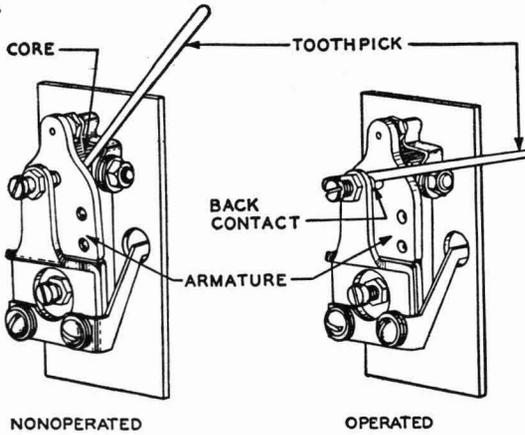

Fig. 12—Blocking 196-type Relays
3.14 **196-type Relays:** Fig. 12—Block relays nonoperated by inserting the pointed end of a toothpick between the armature and the core. Block relays operated by inserting the flat end of a toothpick between the armature and the back contact.